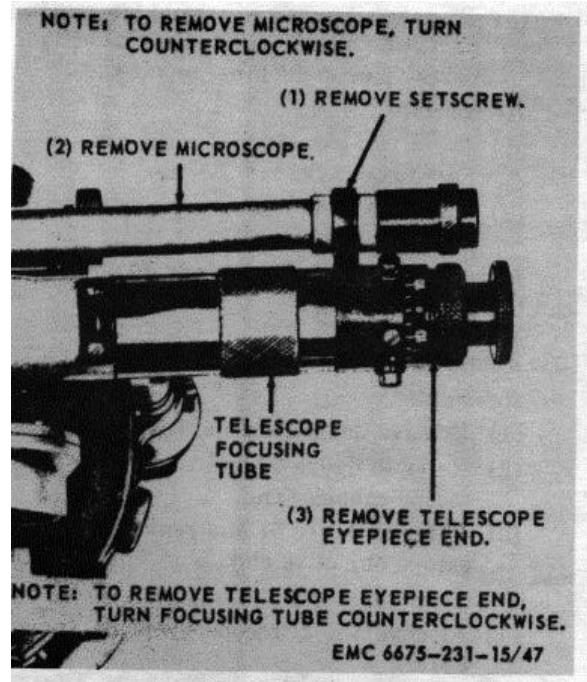
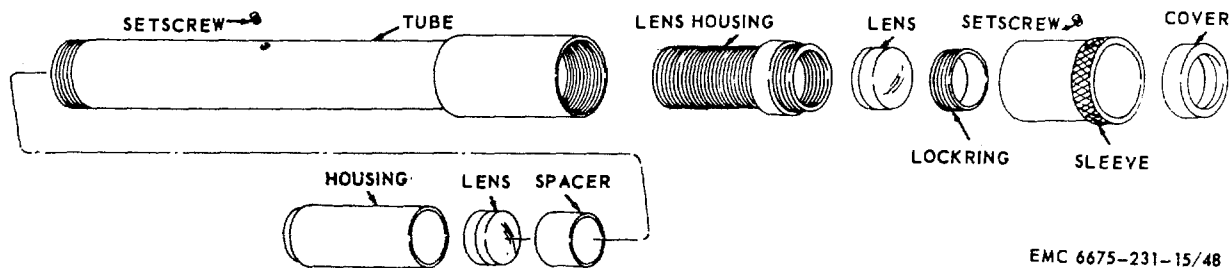

Figure 49. Microscope and telescope eyepiece end, removal and installation.
Figure 50. Microscope, disassembly and reassembly.
a. *Removal.* Refer to figure 49 and remove the microscope.
- (1) Remove the microscope eyepiece (par. 50).
- (2) Refer to figure 50 and disassemble the microscope.
- (1) Refer to figure 50 and reassemble the microscope.
- (2) Install the microscope eyepiece (par. 50).
e. *Installation.* Refer to figure 49 and install the microscope.
- (1) Remove the microscope (par. 102).
- (2) Refer to figure 49 and remove the telescope eyepiece end.
- (2) Refer to figure 49 and install the telescope eyepiece end.
- (3) Install the microscope (par. 102).